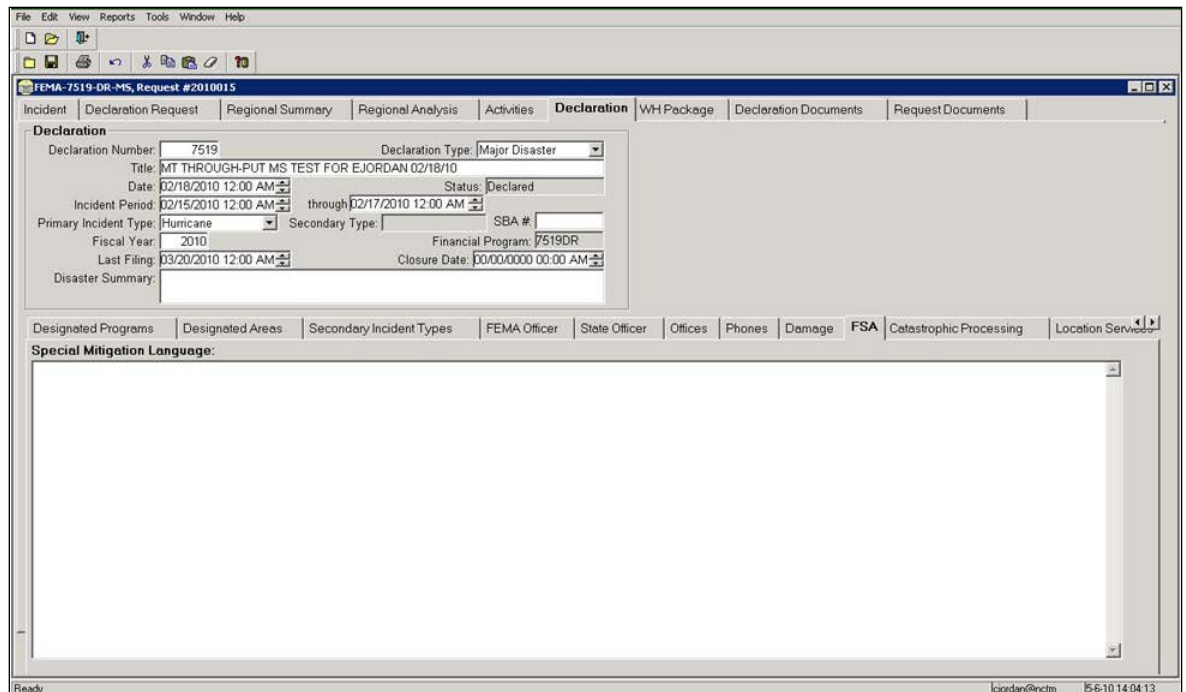

Figure 3-15: FSA Special Mitigation Language
1. In the bottom half of the **Declaration** tab, there are eleven sub-tabs. Click the **FSA** tab. The Special Mitigation Language box is displayed (Figure 3-15).